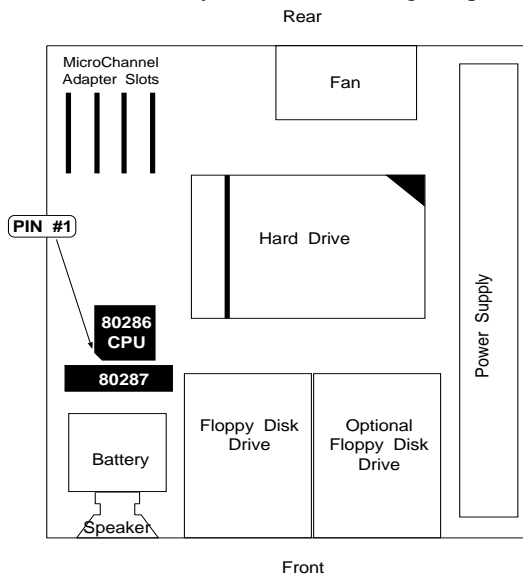

Figure 6. IBM PS/2 Model 50Z
12. If you have an 80287 coprocessor installed, this must also be removed. Locate the 80287 coprocessor as shown in figure 6 and insert the IC removal tool under the corner of the chip. Gently pry upwards, repeat for all 4 corners. Once the pins have been sufficiently exposed remove with your fingers. (Save the 80287 coprocessor in the event you need to temporarily return to the old configuration.)